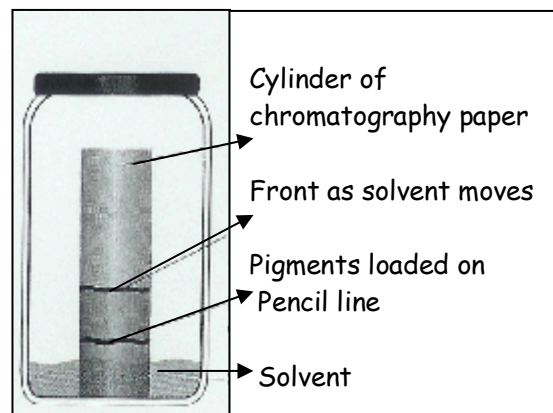

Figure 3
5. Roll the paper into a tube so that the pigment line forms a ring around the bottom (Fig 3). Try to avoid creasing or otherwise damaging the paper.